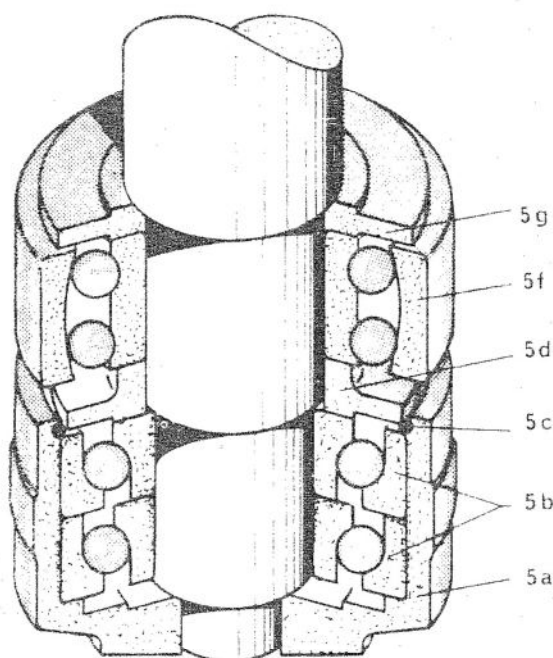

Fig. 8/3
- 4) If one of the angular contact ball bearings 5b needs replacement, be sure to replace always both of them. Note that angular contact ball bearings may be loaded axially in one direction only. They must be fitted in as shown in fig. 8/3. The narrow rim of the outer ring of each bearing must be on top. Faulty mounting will inevitably result in damage to bearings. For installation proceed as follows: Slide the angular contact ball bearings on the spindle, slip snap ring 5c over the ball bearings and let ball bearings cool down. Then fit bottom bearing pressure housing 5a over the ball bearings, and press snap ring 5c into the groove of the bottom bearing pressure housing.